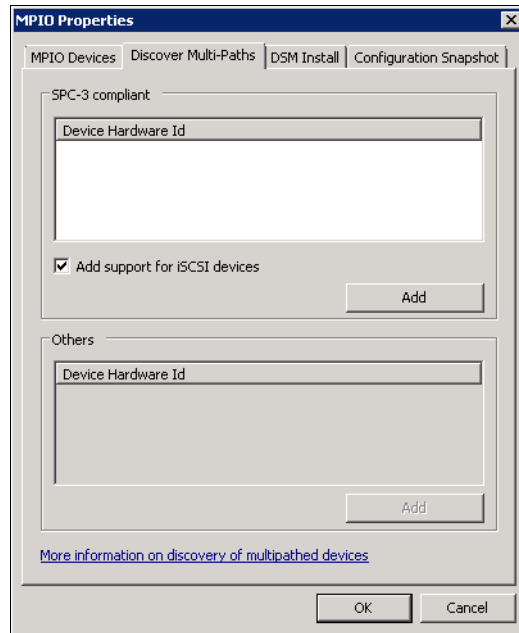

Figure 5-43 Enable iSCSI MPIO
2. Click **Start** → **Administrative Tools** → **MPIO**. Click the Discover Multi-Paths tab and then select the **Add support for iSCSI devices** option, as shown in Figure 5-43.